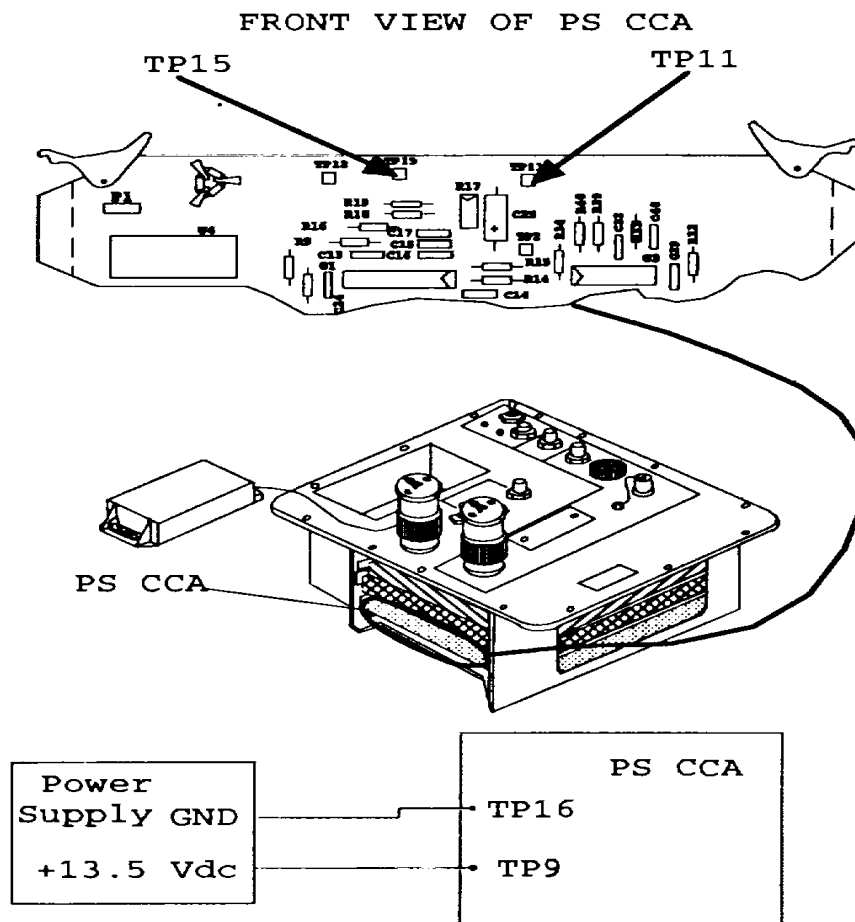

FIGURE 5-4. PS CCA TP11/TP15.
- Step 4. Using multimeter, measure voltage at TP15 with respect to ground at TP11. The output measurement of TP15 should be +5 Vdc  $\pm$ 0.25 V. TP15 and TP11 are shown in Fig. 5-4.